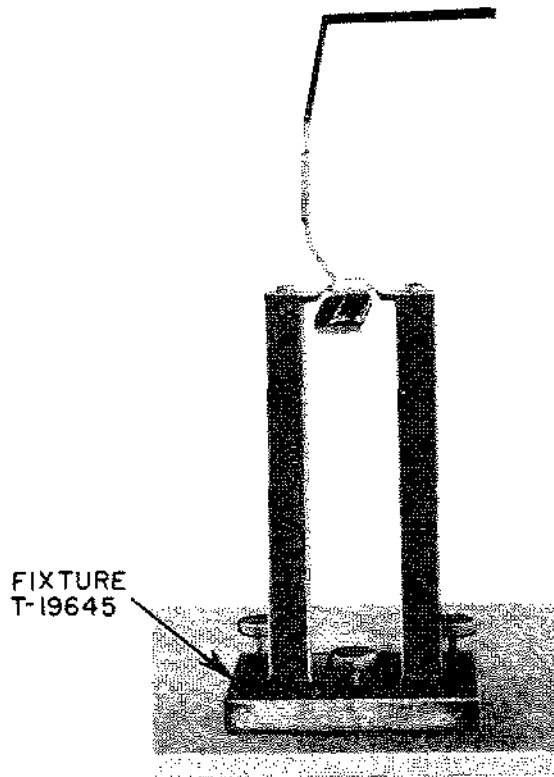

FIGURE 19 BALANCING THE POINTER
2. Place pointer with shaft bearing surfaces resting on knife edges of fixture T-19645 as shown in Fig. 19, and protect from drafts while balancing, as a very slight disturbance will keep the pointer swinging continuously.